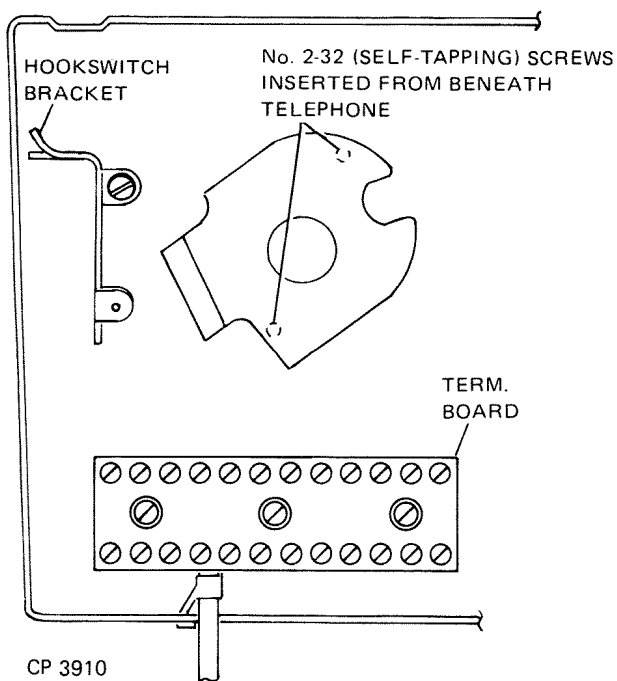

Figure 5. S-C No. 95 Tone Ringer Mounting
2. S-C No. 95 tone ringer (fig. 5).